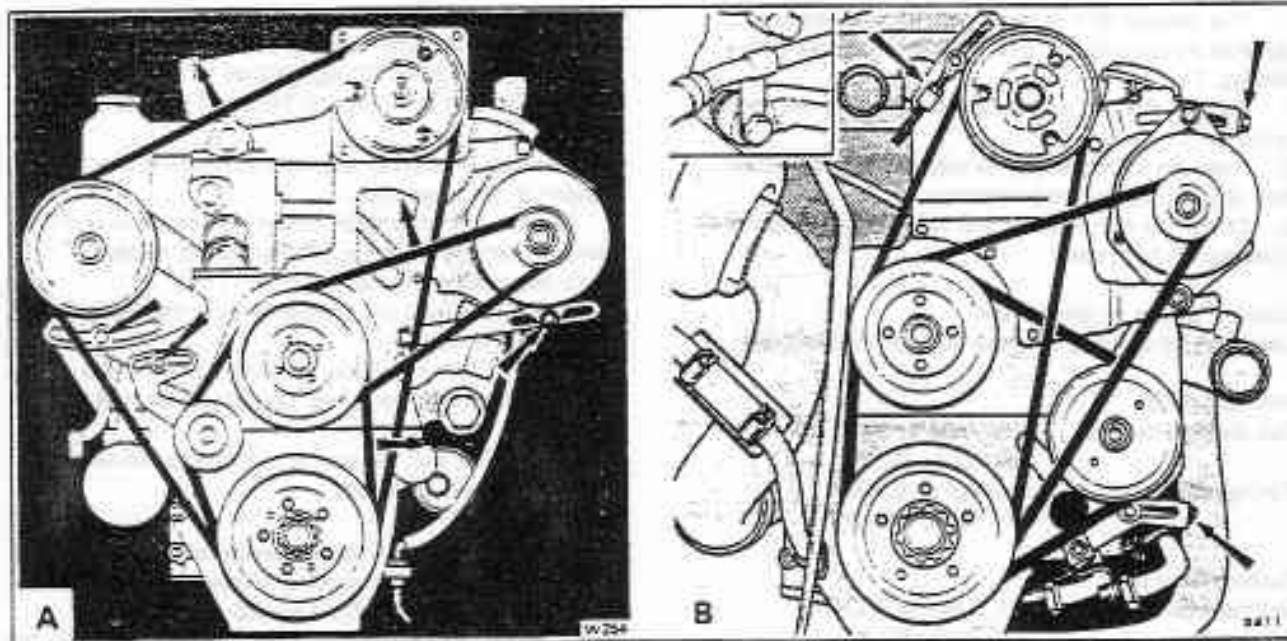

Fig. E13-1 Engine drive belts arrangement
The tension of this matched pair of belts is adjusted by altering the position of the steering pump (see fig. E13-1).
The tension of this matched pair of belts is adjusted by altering the position of the jockey pulley (see fig. E13-1).
The tension of the belt is adjusted by altering the position of the alternator (see fig. E13-1).
1. Slacken the setscrew securing the steering pump mounting bracket pivot and the clamping setscrew on the belt tensioner situated below the steering pump (see fig. E13-1).
1. Slacken the alternator mounting setscrew and the clamping setscrew on the belt tensioner situated above the alternator (see fig. E13-1).
1. Slacken the compressor pivot bolts at the front and rear of the compressor and the belt tensioner setscrew (see fig. E13-1).